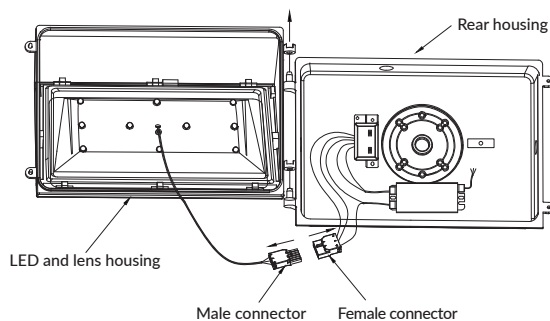

Figure 1
- Open the fixture by loosening the two screws on the right side of the housing. Disconnect the male and female connectors. Remove the LED and lens housing from the rear housing containing the driver. (Figure 1)